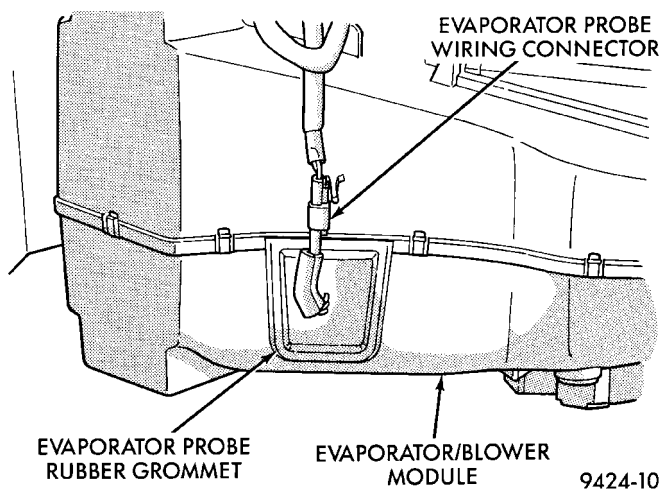

Fig. 33 Evaporator Probe Location
- (1) Disconnect probe wiring connector from behind the glove box.
- (2) Remove rubber grommet from evaporator/blower module (Fig. 33).
- (3) Note which of the three pilot holes the evaporator probe is located in.
- (4) Pull probe out of evaporator fins.